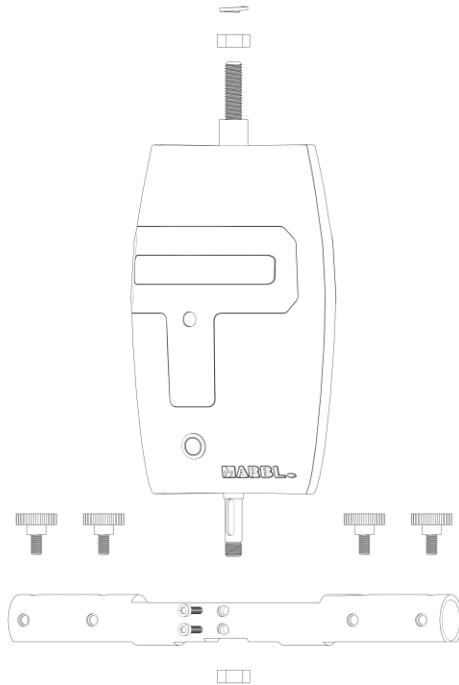

Figure 12: Dual Arm Receiver attached to ORBIT Motor
The **Dual Arm Receiver** (Part #13) should be mounted so that the **Dual Arm Receiver aluminum knobs** (Part #14) are oriented on top as shown in Figure 12 below.
2. Screw on the **nut** (saved from motor in previous step from Section 6.1) securing the **Dual Arm Receiver** to the **ORBIT** motor shown in Figure 12 below. Then, hand tighten the **washer**.